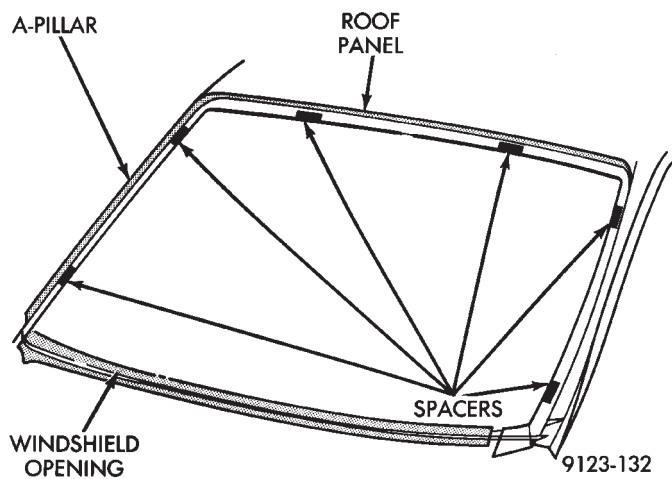
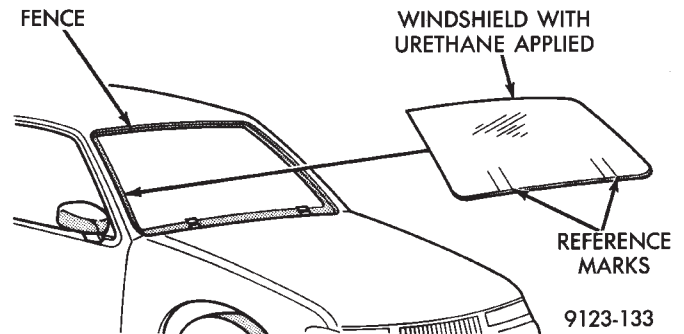

Fig. 5 Position Urethane Compression Spacers
Fig. 6 Lower Windshield Into Position
(6) Clean inside of windshield with ammonia based glass cleaner and lint-free cloth.
(7) Apply molding to perimeter of windshield.
(8) Apply Glass Prep adhesion promoter 25 mm (1 in.) wide around perimeter of windshield and wipe with clean/dry lint-free cloth until no streaks are visible.
(9) Apply Glass Primer 25 mm (1 in.) wide around perimeter of windshield. Allow at least three minutes drying time.
(10) Using a razor knife, remove as much original urethane as possible. Do not damage paint on windshield fence.
(11) Apply pinch weld primer 15 mm (.75 in.) wide around the windshield fence. Allow at least three minutes drying time.
(12) If a low viscosity urethane adhesive is used, install compression spacers on the fence around the windshield opening (Fig. 5).
(13) Apply a 10 mm (0.4 in.) bead of urethane on center line of windshield fence.
(14) With the aid of a helper, position the windshield over the windshield opening. Align the reference marks at the bottom of the windshield to the support spacers.
(15) Slowly lower windshield glass to windshield opening fence. Guide the molding into proper position as necessary. Push windshield inward molding is flush to roof line and A-pillars (Fig. 6).
(16) Clean access urethane from exterior with Mopar® Super Kleen or equivalent.
(17) Apply 150 mm (6 in.) lengths of 50 mm (2 in.) masking tape spaced 250 mm (10 in.) apart to hold molding in place until urethane cures.
(18) Install windshield side moldings and drip rail weatherstrips.
(19) Install cowl cover and wipers.
(20) Install inside rear view mirror.
(21) After urethane has cured, remove tape strips and water test windshield to verify repair.